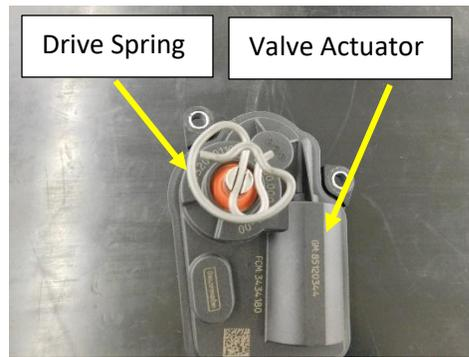

Figure. 7
3. Install the drive spring on to the Actuator as shown in **Figure.7**